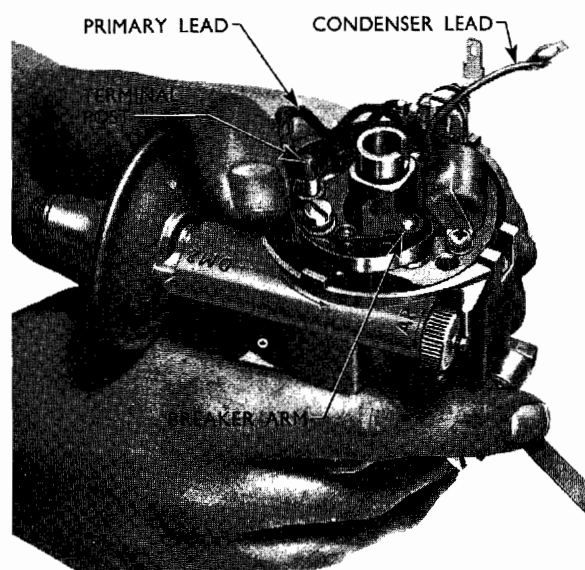

Fig. 4
2. Locate the fibre washer on the pivot post and breaker arm terminal post and refit the breaker arm assembly so that the contact points are together (see Fig. 4).